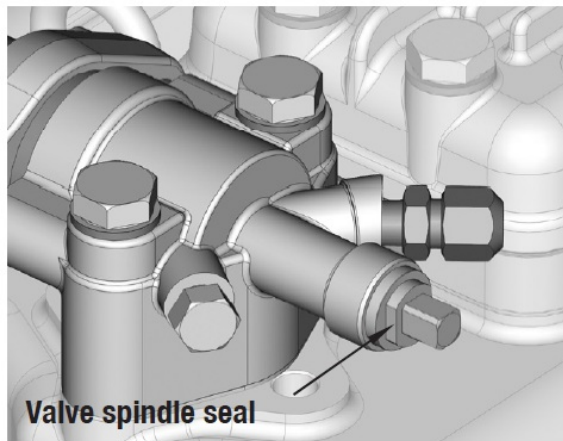

Fig. 10
- The engagement force applied by the belt tension (center of shaft taper, see Fig. 10) must not exceed $F_{\max \text{ per.}} = 2750 \text{ N}$. If the force engagement point shifts to the right (see Fig.6, small point), the force $F_{\max \text{ per.}}$ reduces as per the following formula: